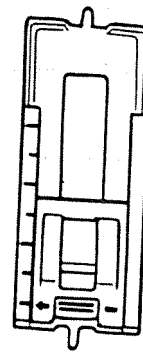

Fig. 39
5. Set buttonhole control (4, Fig. 1) to sew bar tack "  " lower needle carefully into mark on fabric indicating the end of the buttonhole. Lower presser foot and sew 4 or 5 stitches. (Fig. 39)